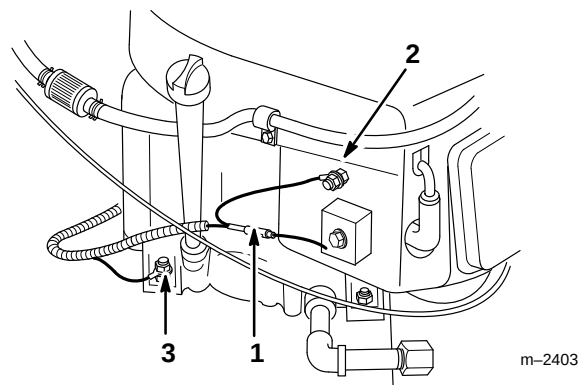

Figure 7
5. Push the red regulator wires together (Fig. 7).
6. Secure the black ground wire, with the small ring terminal, to the engine with #8 nut (Fig. 7).
7. Secure the other black ground wire, with large ring terminal, to engine mount with 5/16" nut (Fig. 7).